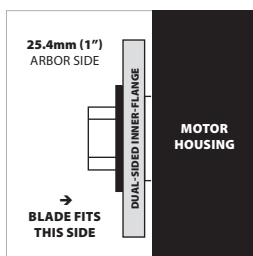

Fig. 40c
- The 25.4mm (1") ring elevation is required to point 'outwards' from the motor when fitting a 25.4mm (1") arbor blade, as this provides a 25.4mm (1") arbor (**Fig. 40c**).